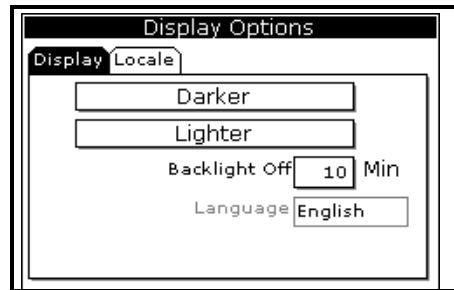

Figure 18: Display Options Window
3. Use the arrow key to scroll to Contrast and press **[ENTER]**. A screen similar to Figure 18 appears.